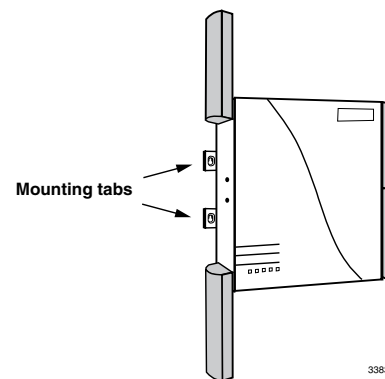

Figure 14 Location of Mounting Tabs
3. Rotate the Base Station antennas to expose the mounting tabs (see Figure 14).